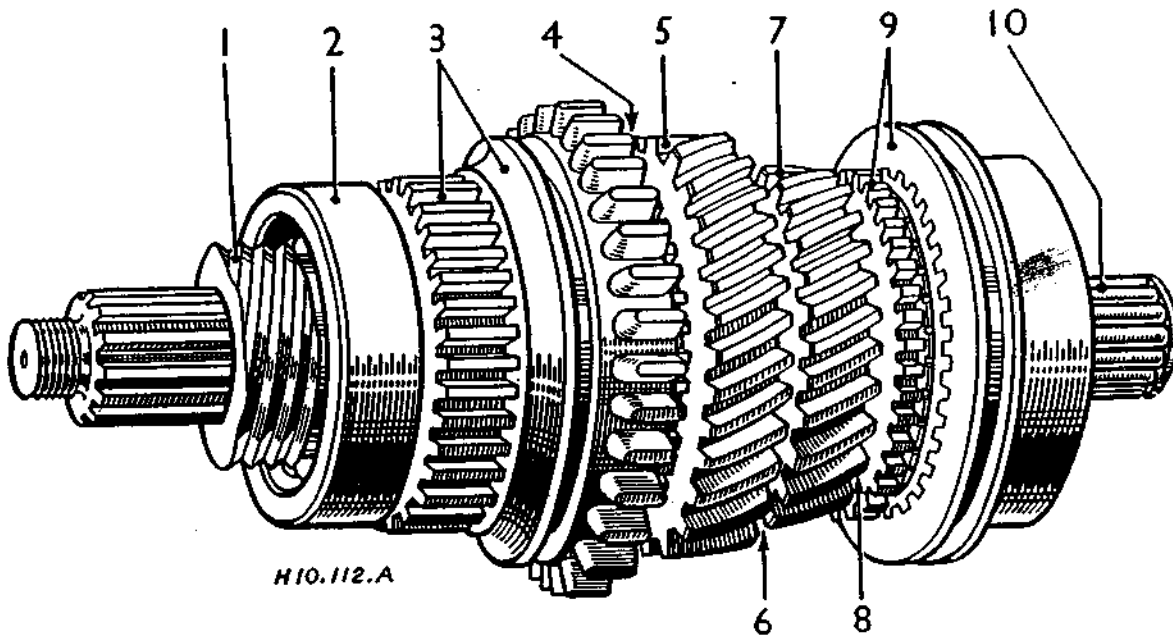

Fig. 15.
Fig. 15 shows the correct running assembly of the Third Motion Shaft, but actually the speedometer wheel (1) and the ball bearing (2) are not assembled till the shaft and gears are positioned in the box. The rear ball bearing is